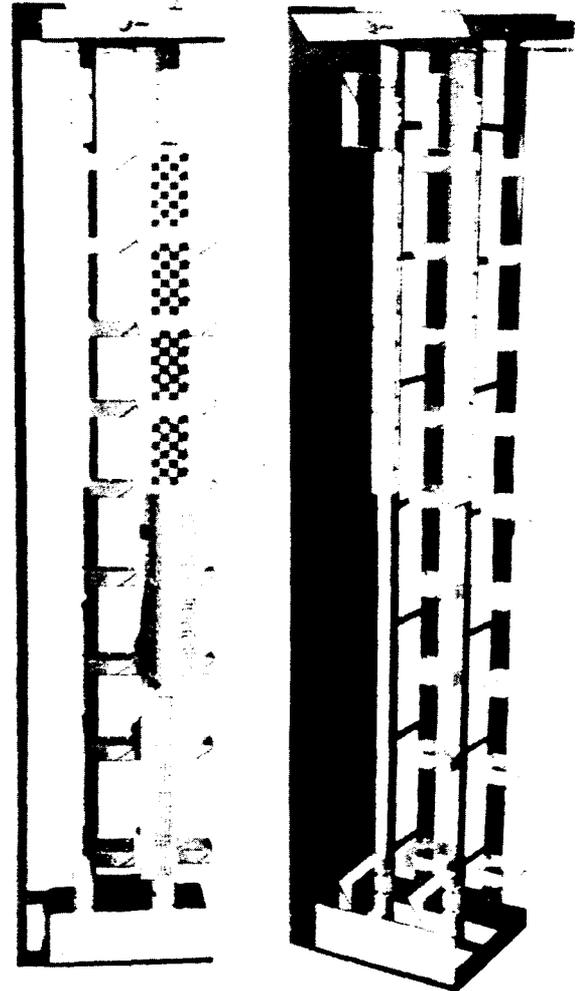

Figure 9—SSLPDF (Single-Sided, Low Profile Distributing Frame)
4.11 The basic SSLPDF unit (Figure 9) provides two vertical uprights on 8-inch centers in a single-sided arrangement 16 inches wide by 15 inches deep. Standard heights available are 7 feet, 7 feet 6 inches, 9 feet, and 11 feet 6 inches. (The 9-foot and 11-foot 6-inch options are designed to accept apparatus only to the 7-foot 6-inch level.) The standard black and ivory colors will blend with nearly any office color scheme.